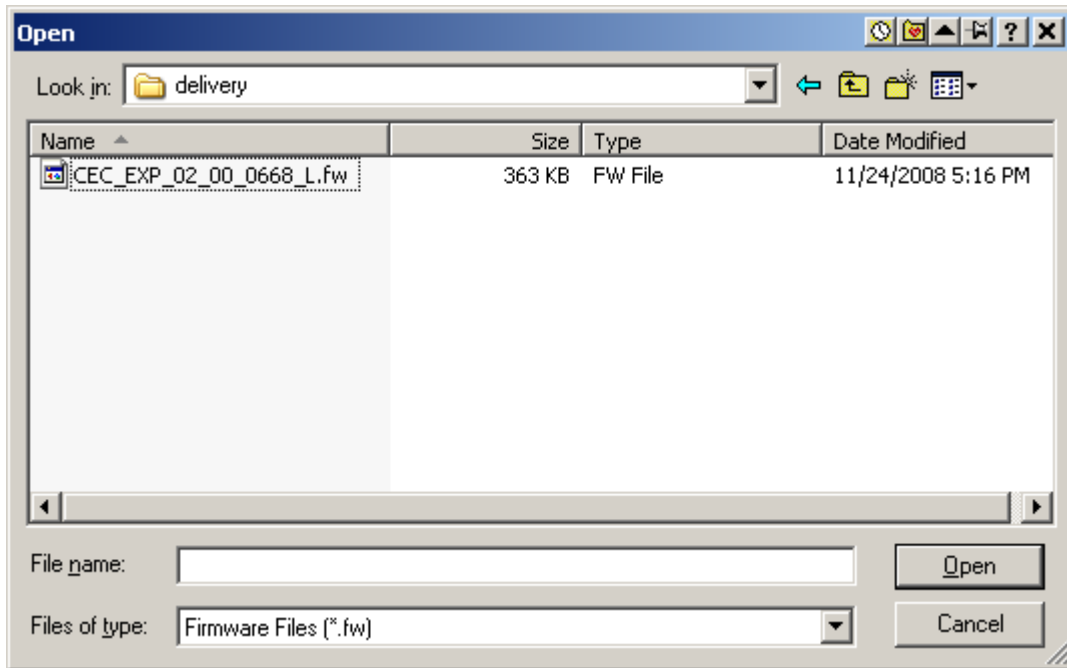

Figure 10: LAN Update Application, file dialog for firmware file
- Press the button “Select File” to select the firmware file (*.fw) that shall be used for the update (Figure 10)